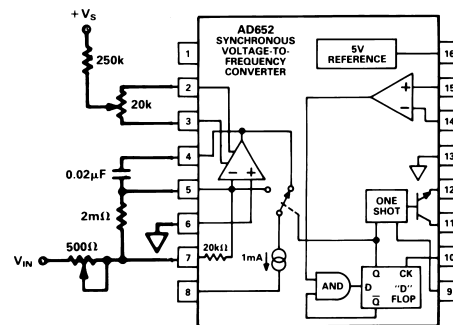

Figure 10a. Cerdip Gain and Offset Trim
adjustment is then accomplished using a 500 Ω series trimmer. See Figures 10a and 10b. When negative input voltages are used, this 500 Ω trimmer will be tied to ground and Pin 6 will be the input pin.
The offset of the op amp may be trimmed to zero with the trim scheme shown in Figures 10a for the cerdip packaged device and Figure 10b for the PLCC packaged device. One way of trimming the offset is by grounding Pin 7 (8) of the cerdip (PLCC) packaged device and observing the waveform at Pin 4. If the offset voltage of the op amp is positive, then the integrator will have saturated and the voltage will be at the positive rail. If the offset voltage is negative, then there will be a small effective input current that will cause the AD652 to oscillate and a sawtooth waveform will be observed at Pin 4. The trimpot should be adjusted until the downward slope of this sawtooth becomes very slow, down to a frequency of 1 Hz or less. In an analog-to-digital conversion application, an easier way to trim the offset is to apply a small input voltage, such as 0.01% of the full-scale voltage, and adjust the trimpot until the correct digital output is reached.